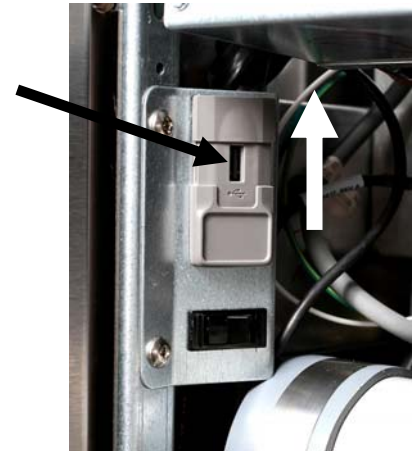

Figure 48
10. Open the far left cabinet door and slide the USB cover up (see Figure 48).